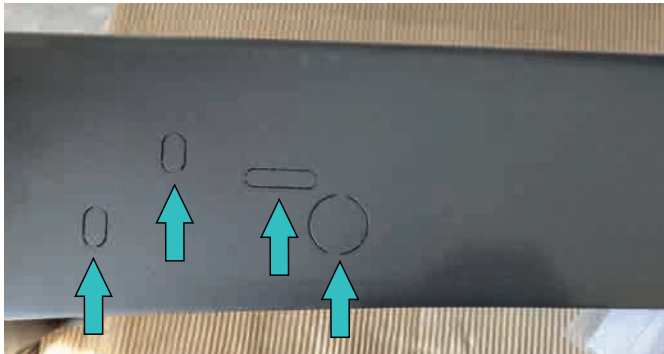

Fig.38
37. Hammer out the plugs for lightbar on the bumper body (fig.38,39).